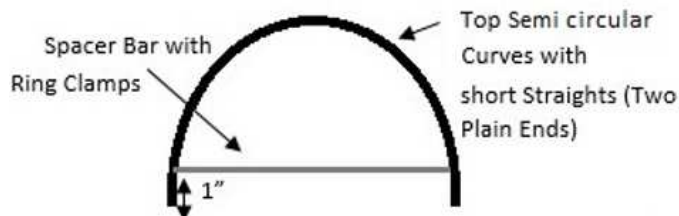

Figure 1: Attach the Spacer Bars onto the Top Curves
2. Slide a Spacer Bar onto the Top semi curves, position the spacer bar 1" from the end of the curve, as illustrated in Figure 1.
- If the distances are not equal adjust, as Necessary, the clamps' positioning on the Top Curves (refer to Figure 1), and tighten the clamps.